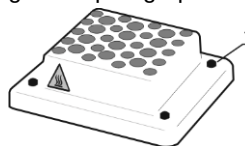

Fig. 2. Thermoblock setup
- Align the thermoblock so that the warning label  is facing the front of the unit (fig. 2).
- Secure with the four knurled screws (fig. 2/1) or four hex screws.